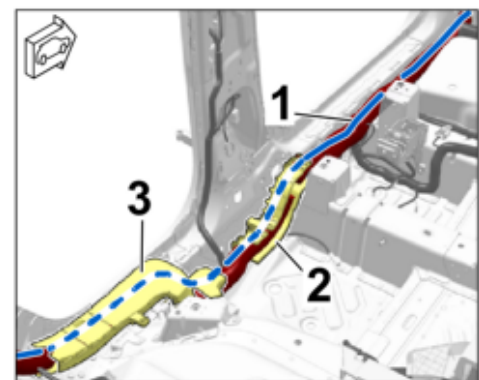

Figure 24
3.2.2 Door sill area, left (⇒ Figure 24)